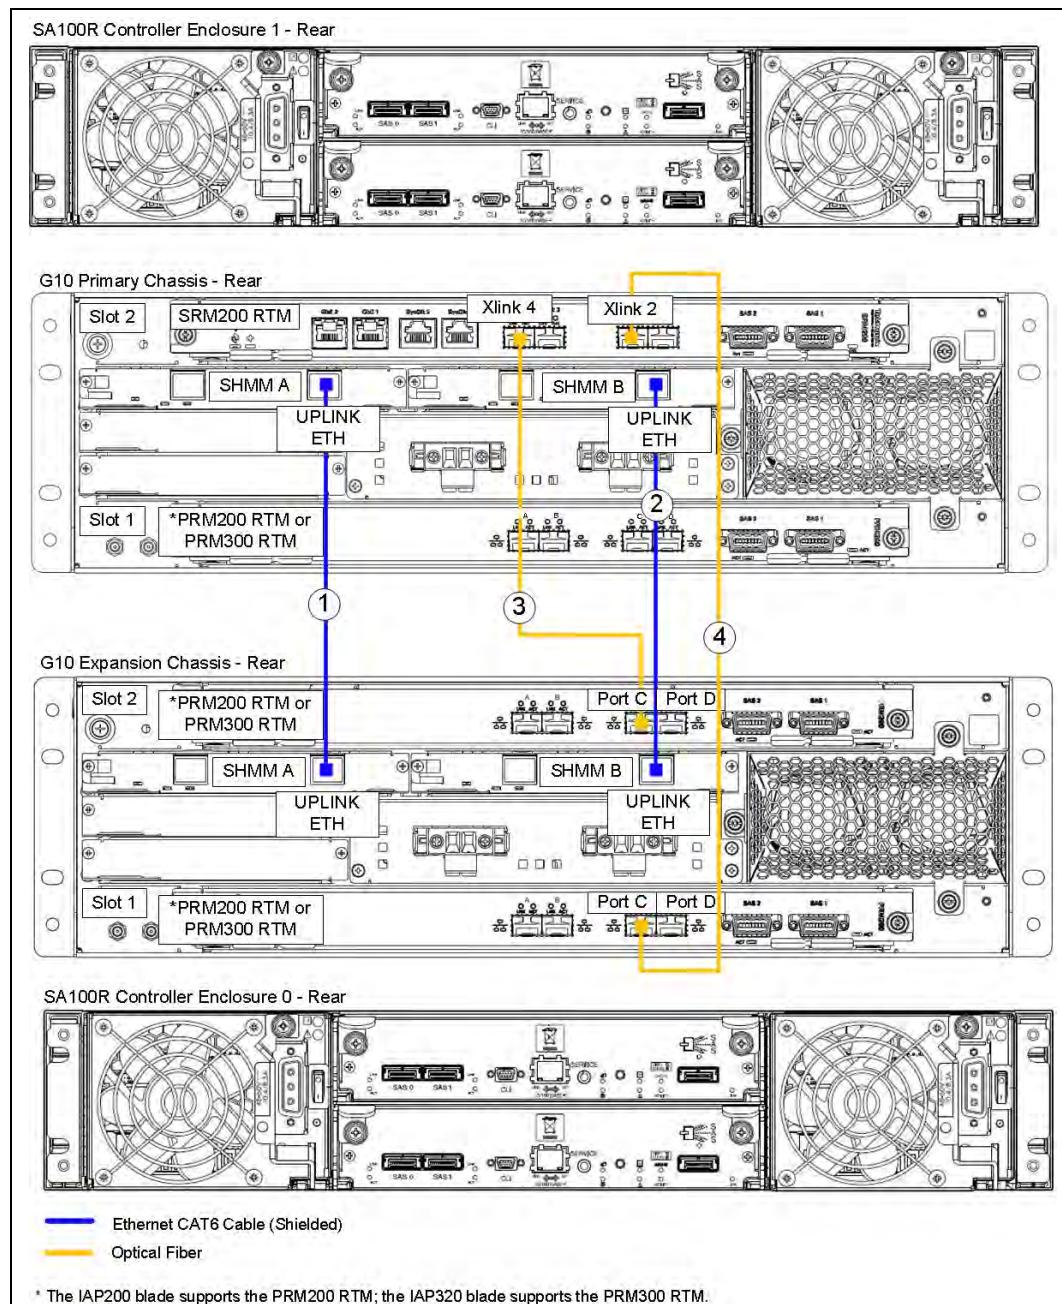

Figure 3.9 - Ethernet Connections Between G10s
4. Connect Ethernet cables between the primary and expansion G10 chassis as shown in Figure 3.9 and Table 3.7.